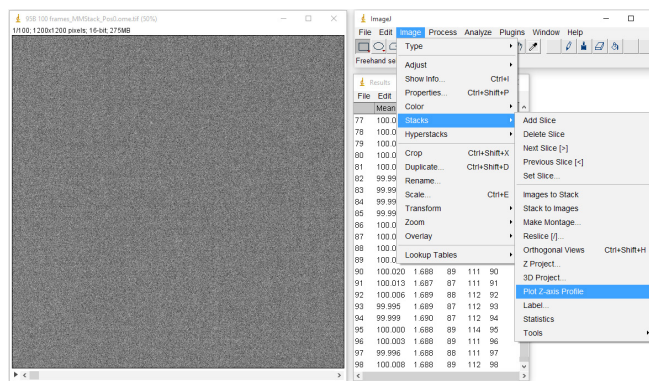

Figure 3
4. Calculate the mean of every frame by selecting Stacks from the Image menu and then clicking on Plot Z-axis profile (Figure 3). This should give you the mean values of every frame in the Results window.